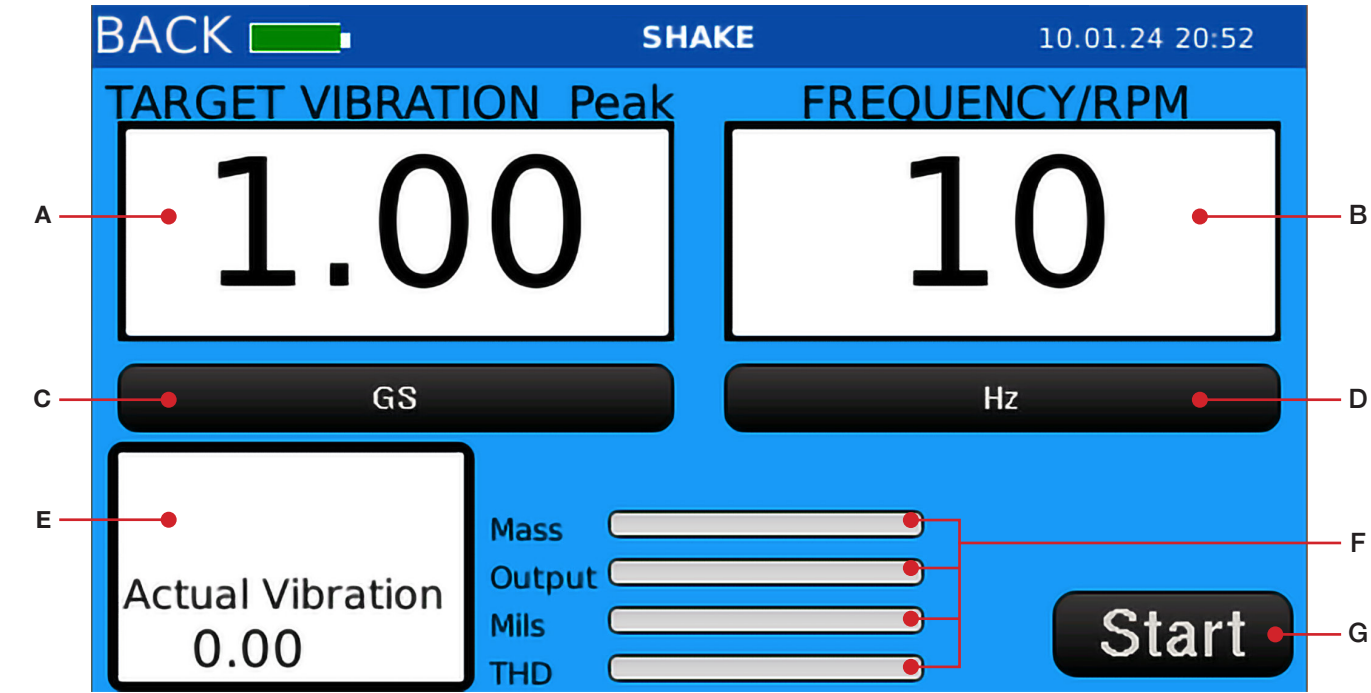

Figure 8. Shake mode screen
- To begin the test (Figure 8):
During the test the amplitude and frequency may be adjusted (Figure 8).
During the test, the values shown in the onscreen amplitude display and frequency/RPM display may be adjusted (Figure 8):
Purewave is the distortion compensation algorithm. The status of Purewave is indicated by the color of the Reference data point (Figure 8):